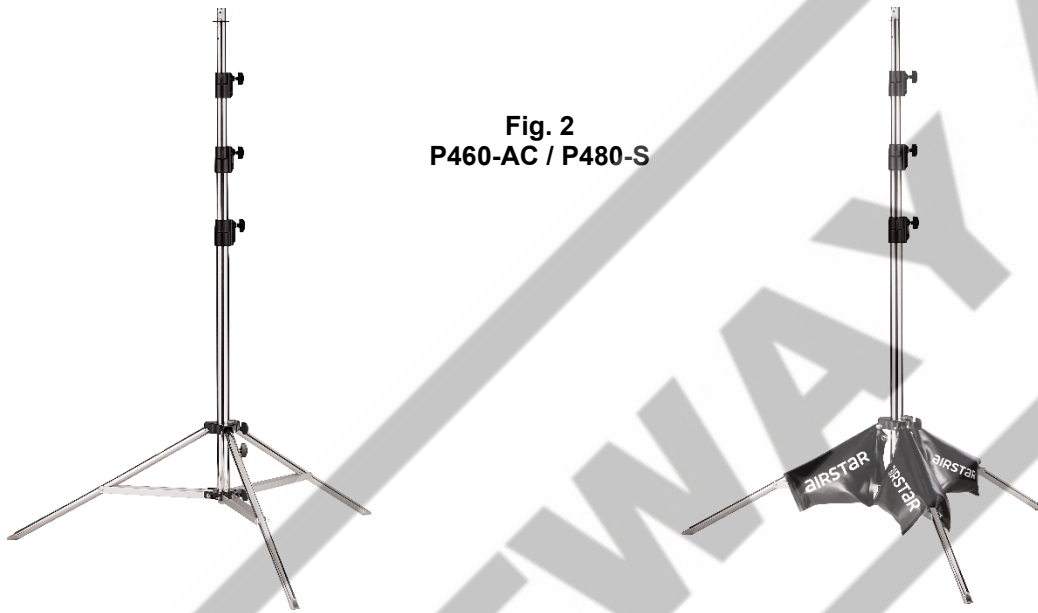

Fig. 2
3. On the P460-AC / P480-S stands (Fig. 2), slide the feet of the stand out from their folded position until the reinforcing bars are precisely horizontal.
4. On the P460-AC / P480-S stands (Fig. 2), Airstar sandbags must be positioned on each stand foot and attached around the central column.